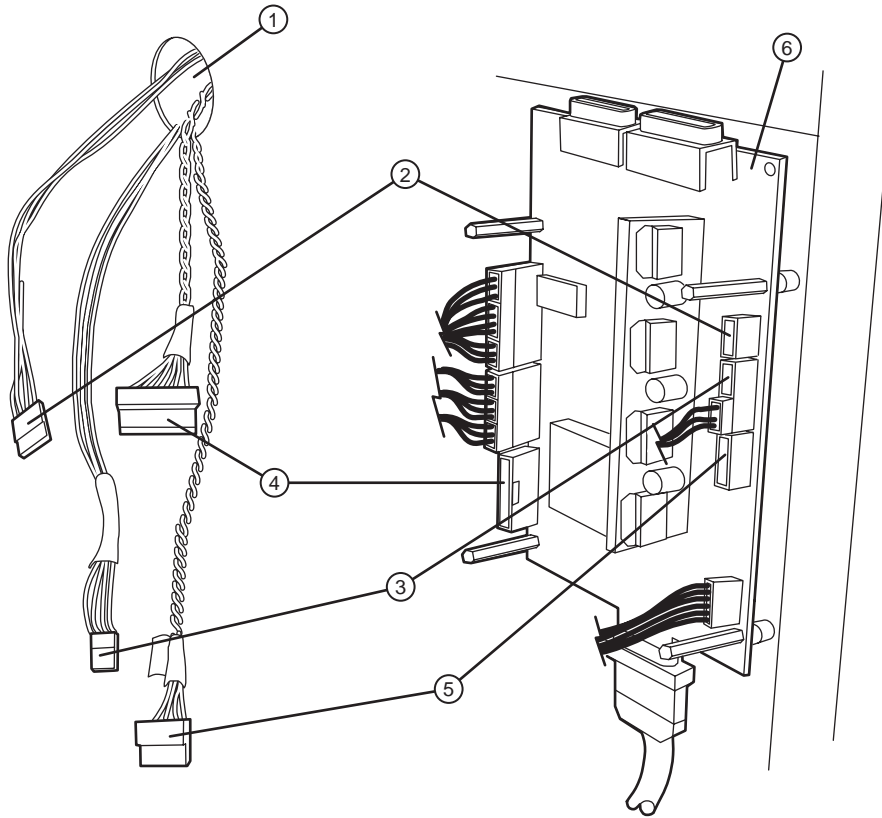

Figure 1-16 Attaching the buffer wires to the buffer/imagesetter interface board.
23. Plug the wires into the buffer/imagesetter interface board at the four points shown in Figure 1-16.